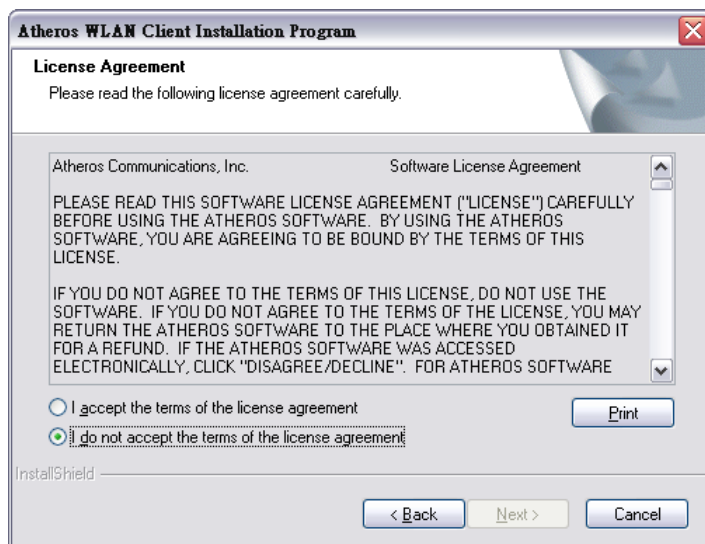

Figure 6-30: Wireless Driver License Agreement
Step 4: The license agreement in **Figure 6-30** appears.